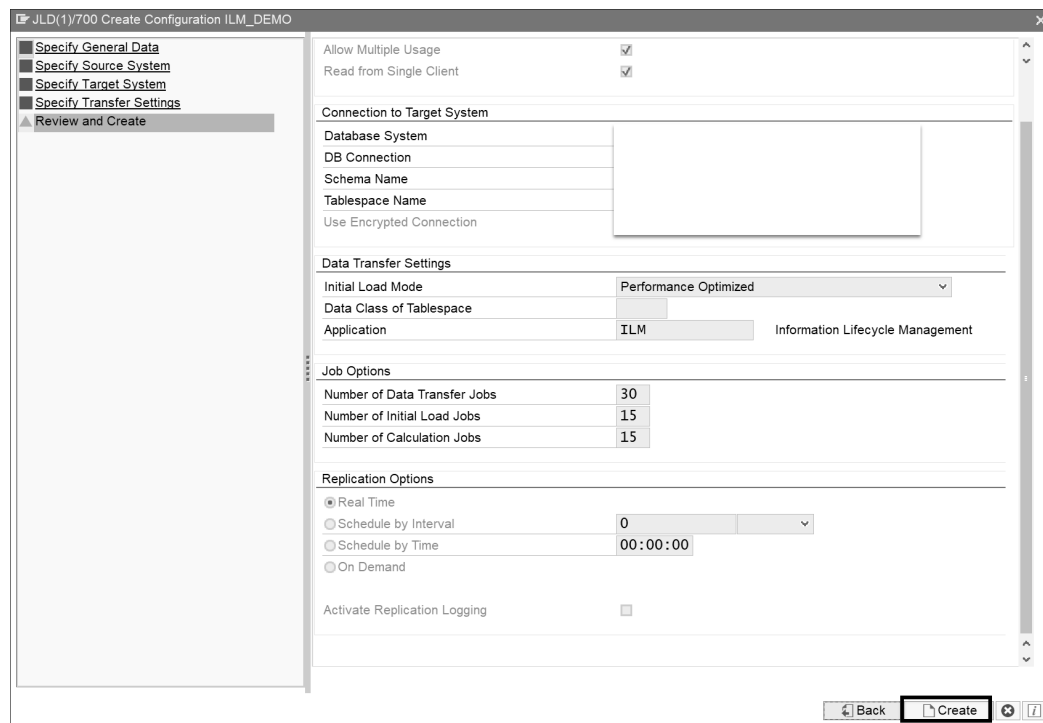

Figure 8.10 Creating a Configuration: Review and Create
15. On the left side of the screen, the last area will be highlighted next: **Review and Create** (see Figure 8.10). Check the parameters and confirm your entries via the **Create** button.